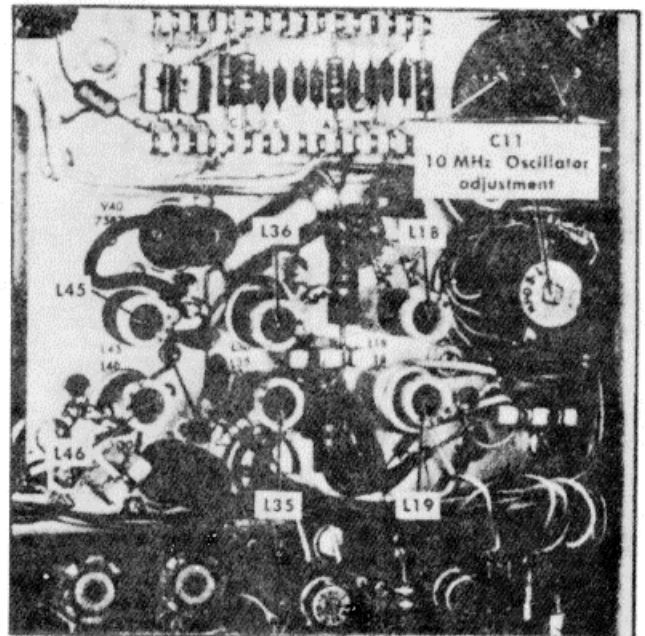

Fig. 6-7. 10 MHz (.1 μ s) 50 MHz(20ns) and 100 MHz (10) oscillator and multiplier adjustment. Step 4, 10.
- c. Adjust L18 (Fig. 6-7) midway between the two signal maximum amplitude points.
- d. Change the A Time/Cm switch to .5 μSEC position and adjust L18 (Fig. 6-7) for marker amplitude and uniformity